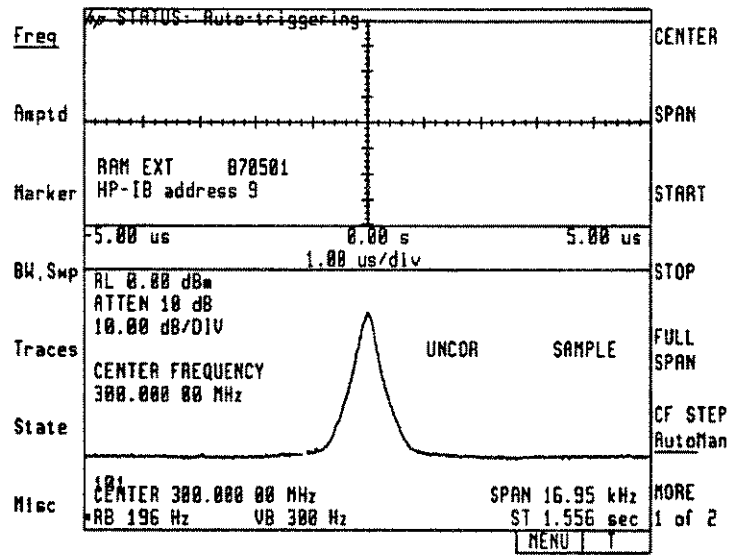

Figure 2-16. Configuring Display
**config display** gives the user access to a submenu of keys that configure the various features of the display. See Figure 2-16. These features and capabilities consist of building windows on the screen, selecting the instruments that may write to those windows, saving and recalling display configurations, and viewing stored and current configurations.